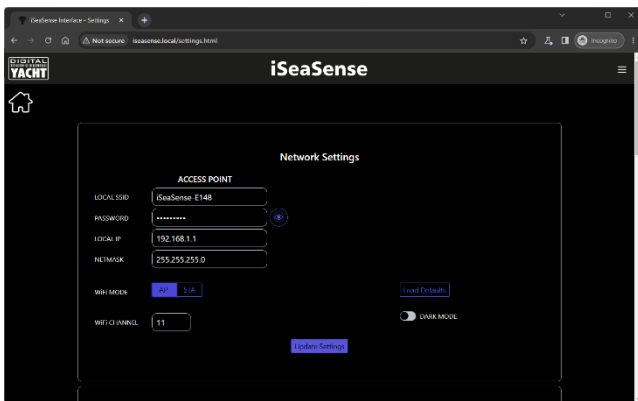

Figure 11
By default, iSeaSense operates in Access Point (AP) mode and creates its own wireless network with a default name and password. You can change the network name and wireless password as shown in Fig 11.